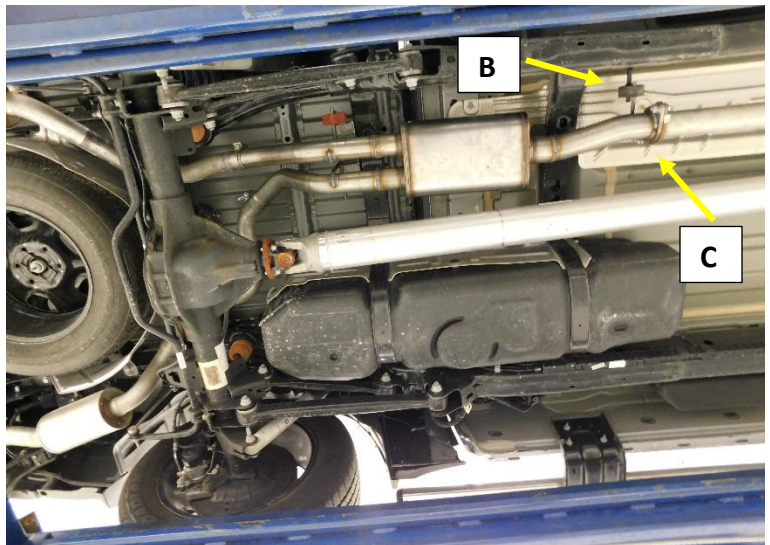

Figure. 5
1. Apply penetrating oil to the rubber isolator at the 2-bolt flange. **See figure.5 (B)**
4. Align the Muffler inlet pipe hanger rod **(B)** to the isolator on the frame at the flange. Install the hanger rod into the isolator. **Fig.5**
6. Install a 7/16 flat washer **(4)** onto each provided 7/16 Hex bolt **(3)**. Install the bolts at the flange connection between the muffler and the OEM pipe **(C)**. Be sure the metal gasket is in place. **Fig.5**